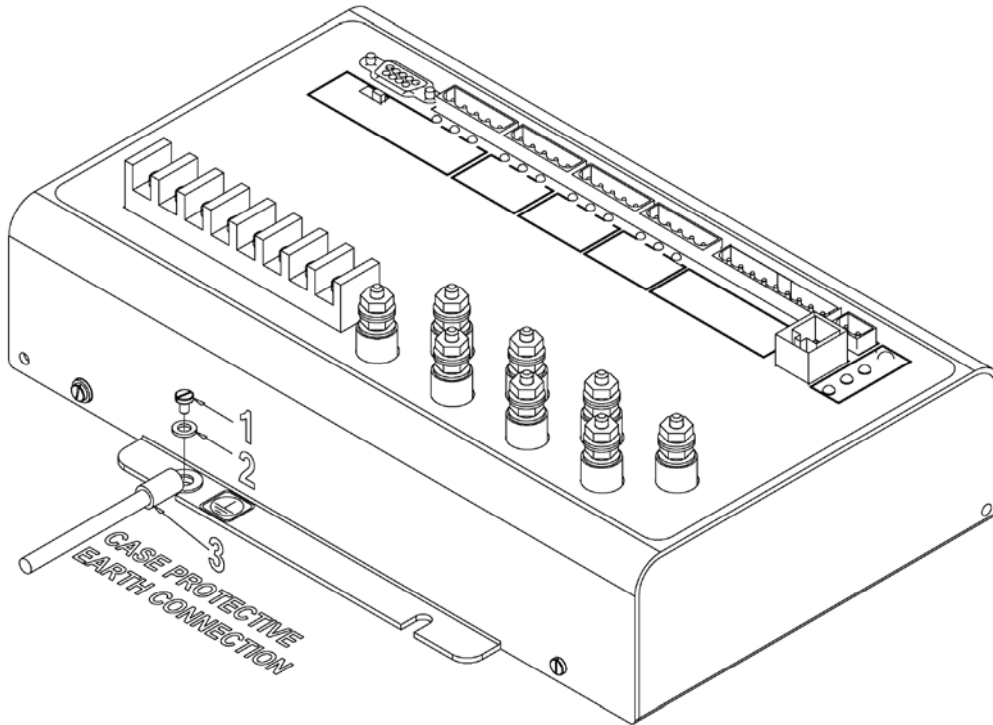

Figure 4.1: Meter Case's Earth Ground Connection
- **To comply with UL standards**, the meter case must be connected to a reliable protective earth available within the installation area. For this connection use minimum #14 AWG wire crimped to a ring terminal(3) with a dedicated tool. Fasten the ring terminal(3) to the lower left slot of the meter case with minimum #6 metal screw(1) and star washer(2), as is shown in Figure 4.1.